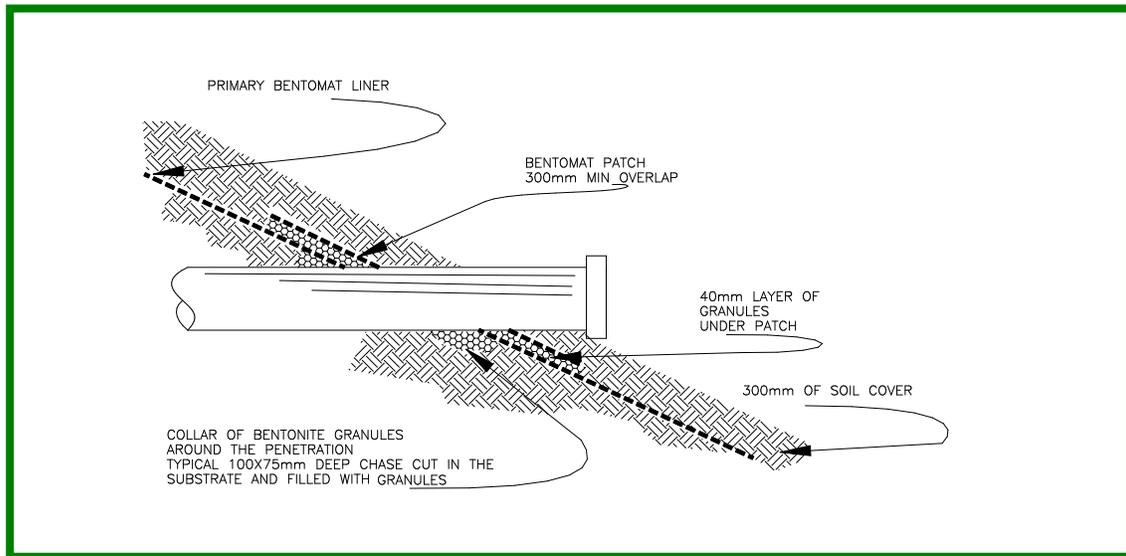

Figure 4a. Cross-section of a horizontal pipe penetration.
- 8.3 When the GCL is placed over an earthen sub-grade, a “notch” should be excavated into the sub-grade around the penetration (Figure 4a). The notch should then be backfilled with granular bentonite or bentonite mastic.